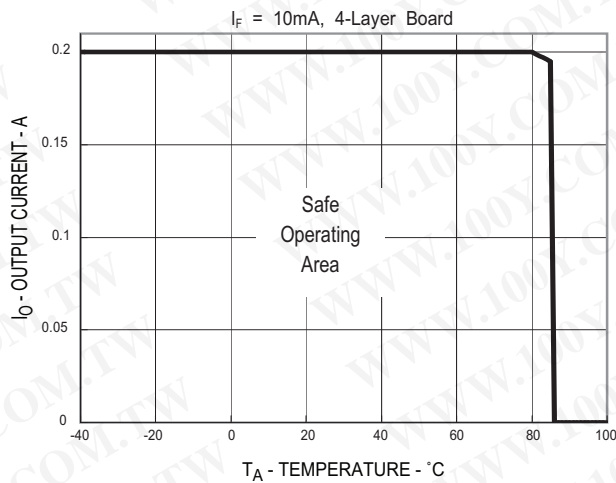

Figure 1. Maximum Output Current Rating vs Ambient Temperature (ASSR-1218-003E)
- For derating, refer to Figure 1, 2, 3 and 4.
Figure 1, 2, 3 and 4 specify the maximum average output current allowable for a given ambient temperature. The maximum allowable output current and power dissipation are related by the expression $R_{ss} = P_o(max) / (I_o(max))^2$ from which R_{ss} can be calculated. Staying within the safe area assures that the steady state MOS-FET junction temperature remains less than 125 °C.